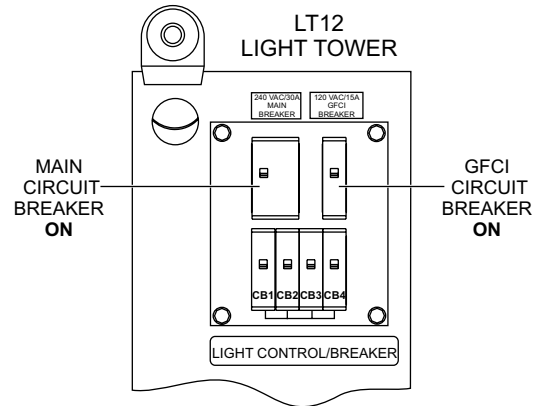

Figure 29. Main, GFCI Circuit Breakers (ON/LT12)
4. Once, the engine has started, place the GFCI and main circuit breaker switches (Figure 29) on the LT12 control panel in the ON position. The balloon should begin to inflate.